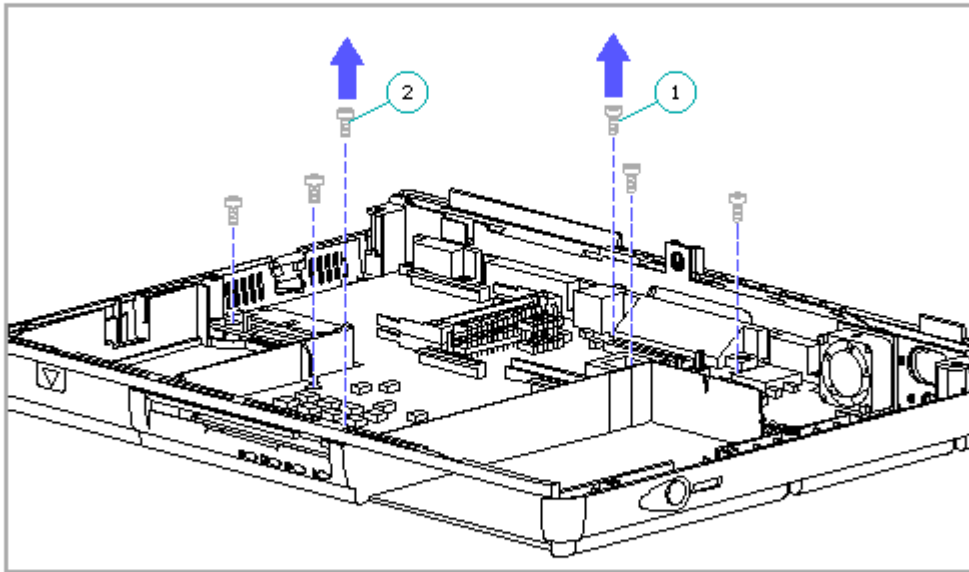

Figure 4-47. Removing the System Board Screws
16. Remove the six screws that attach the system board to the computer base enclosure (Figure 4-47).
**IMPORTANT:** To ensure proper alignment when replacing the system board, replace the screw noted as [1], then replace the screw noted as [2], then replace the other four screws (Figure 4-47).